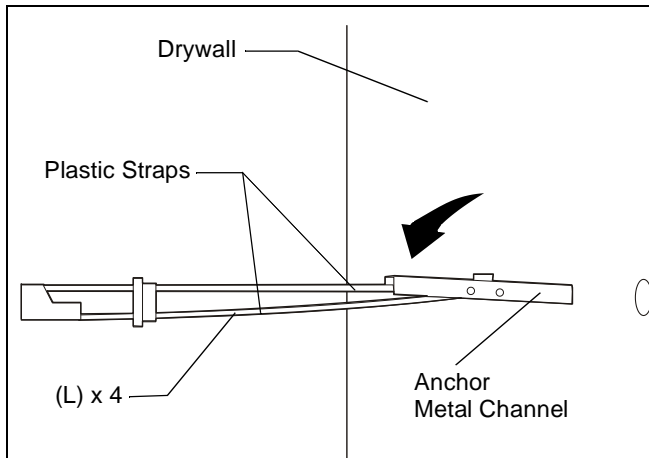

Figure 4
6. Hold metal channel on anchor (L) flat along side plastic strips and slide channel through hole. (See Figure 4)